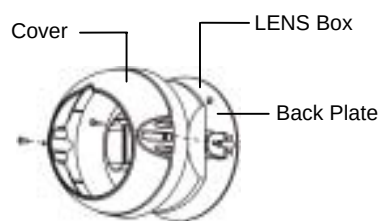

Figure 2. Assembly explosion
- Step 1. Remove unit cover and lens box (Figure 2).